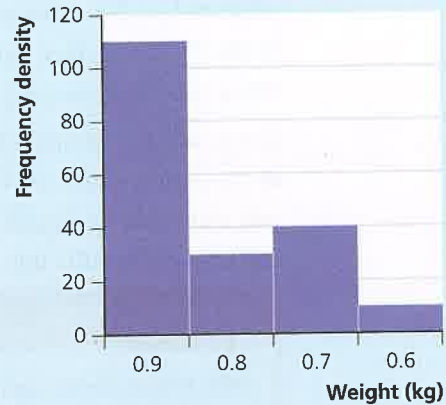

Figure 5.7 Histogram
Step 4: Draw the histogram, as in Figure 5.7.